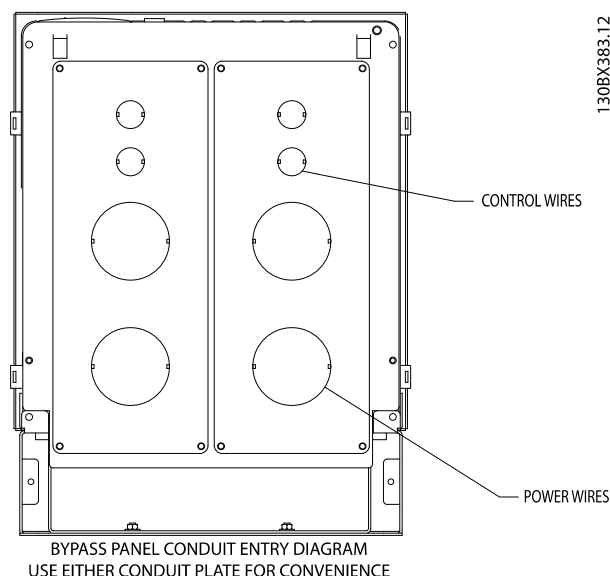

Figure 3.13 Bypass Panel Conduit Entry Diagram
- Removable access knockout covers are provided for cable connections (see *Figure 3.13* and *Figure 3.14*).